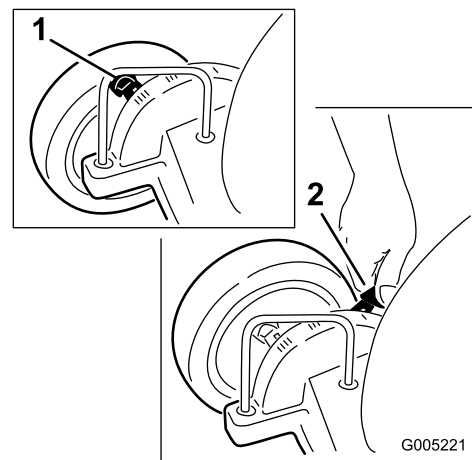
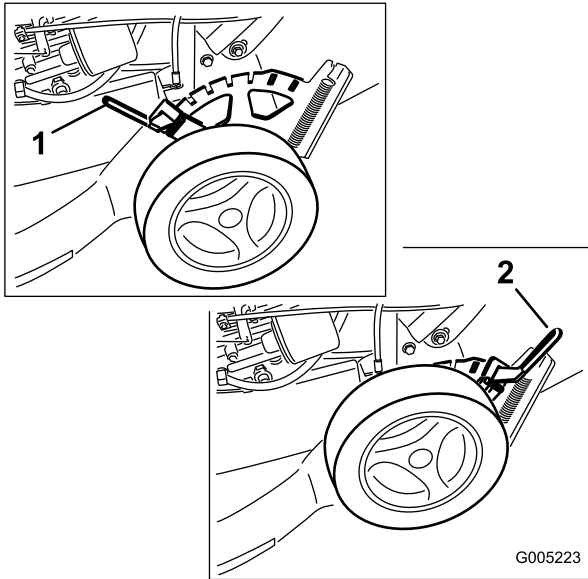

Figure 16
Figure 17
The front wheels are adjusted individually with a wheel height adjustment lever (Figure 16). The rear wheels are adjusted together with a wheel height adjustment lever located above the left rear wheel (Figure 17).
1. Pull each of the front wheel height adjustment levers toward the wheel (Figure 16) and move it to the desired setting.
1. Pull the rear wheel height adjustment lever out and move it to the desired setting (Figure 17).